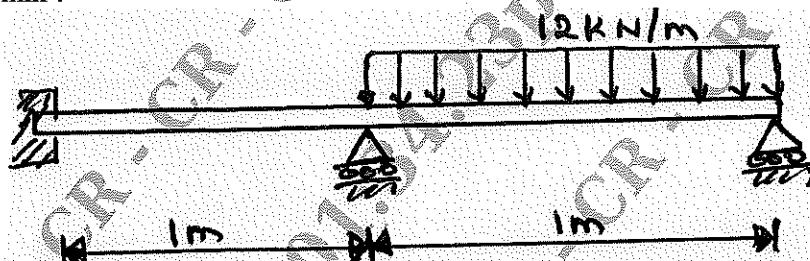

Fig.Q5(b)
b. For the beam and loading shown in Fig.Q5(b), determine the slopes at 2 and 3, and the vertical deflection at the midpoint of the distributed load. Take $E = 200 \text{ GPa}$, $I = 4 \times 10^6 \text{ mm}^4$.